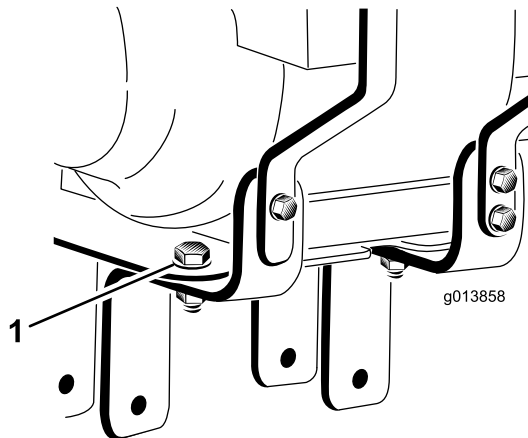

Figure 3
16. Loosen, but do not remove, the 2 bolts and nuts securing the engine mount brackets to the engine mounting plate (Figure 3).